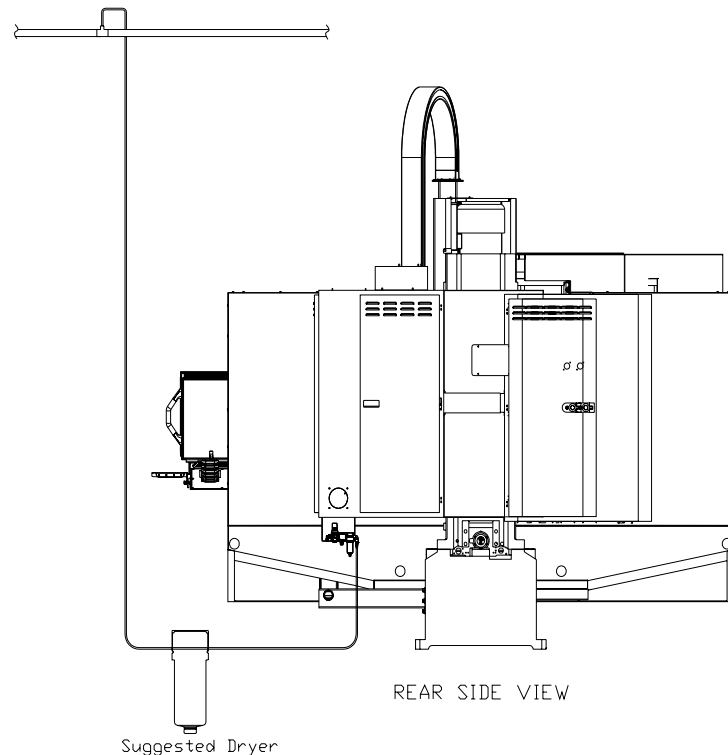

Figure 2-4: Attach Drain to Lowest Point of Air Supply Line
3. A "T" riser should be used to connect the main air supply line with the air supply line to the VMC (See Figure 2-4: Attach Drain to Lowest Point of Air Supply Line).
4. To prevent moisture from entering the VMC's air system, attach a drain to the lowest point of the air supply line. (See Figure 2-4: Attach Drain to Lowest Point of Air Supply Line). The drain could be a self-relieving moisture separator, a simple petcock, or a gate valve opened occasionally to release the water build-up. An air dryer is preferred where higher moisture levels exist.